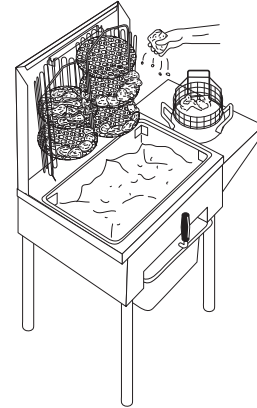

Figure 2
1. Before loading basket for the first cooking cycle of the day, dip clamshell basket into hot shortening; allow to drain. This prevents food product from sticking to the basket. Hook open clamshell basket on the basket hanger on back of cover (see Figure 2).
4. Remove breaded food product from lug and gently shake excess breading from product (Figure 2). Load breaded pieces onto top shelves of basket first. This allow loose breading particles to fall through basket into the lug. Place pieces close together, but do no overlap them.